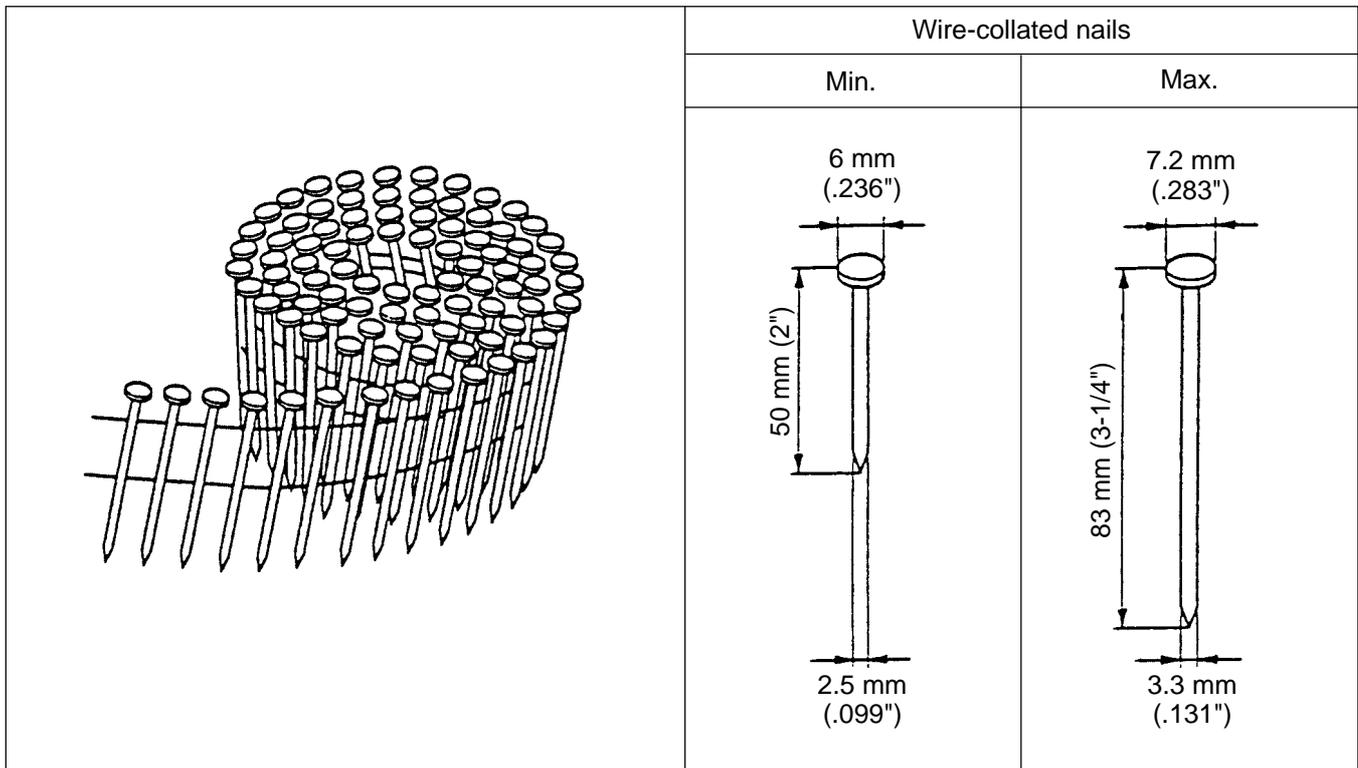

Fig. 1 Dimensions of nails
**CAUTION:** Ensure that nails are as specified in Fig. 1. Other nails will cause clogging of nails and subsequent damage to the nailer.